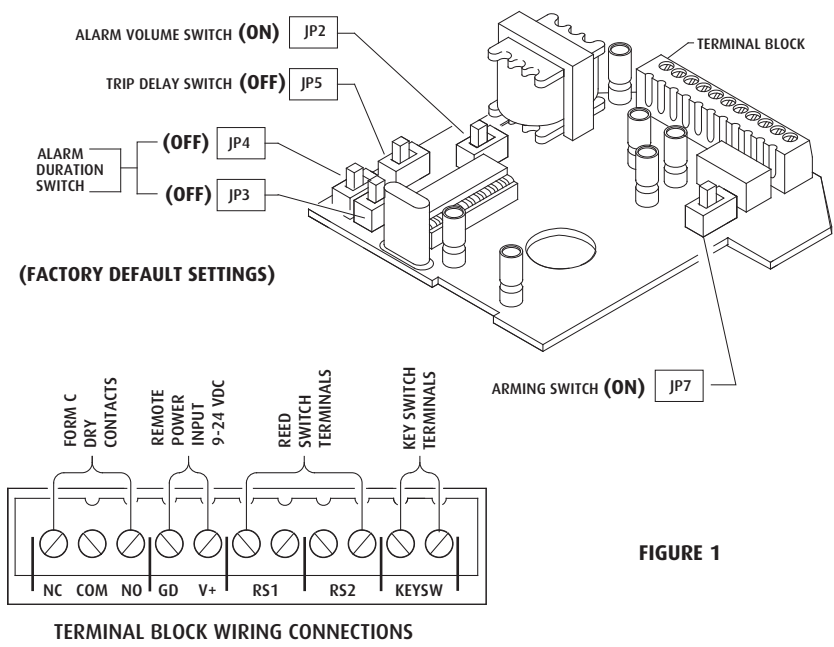

FIGURE 1
3. Set switches, on circuit board, to desired alarm settings (figure 1).
4. Test settings by connecting battery or external power source. If using external power source a Class II UL Listed transformer is required. If power is present at terminal block (figure 1) 9V battery is in no-load on standby power consumption.
2. Connect first reed switch in RS1 and second in RS2 (Figure 7). (Refer to Figure 1 for additional details on page 4.)
2. Connect two conductor wire (14-24 AWG) from main unit terminal block pins COM and NO to remote horn unit terminal block. (wire not provided). Units can be set up to 300 ft. apart. Not polarity sensitive (refer to Fig. 1 and Fig. 7 for details).